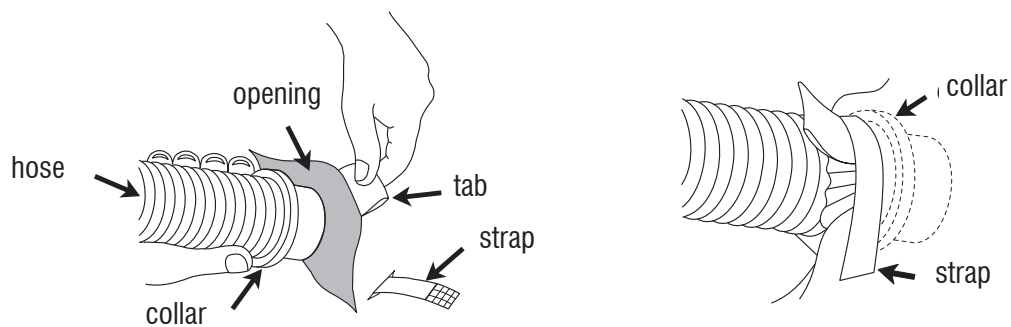

Figure 5 - Attaching hose to Quilt
- Insert the end of the hose into the Quilt opening (fig. 5). Secure the hose tightly.